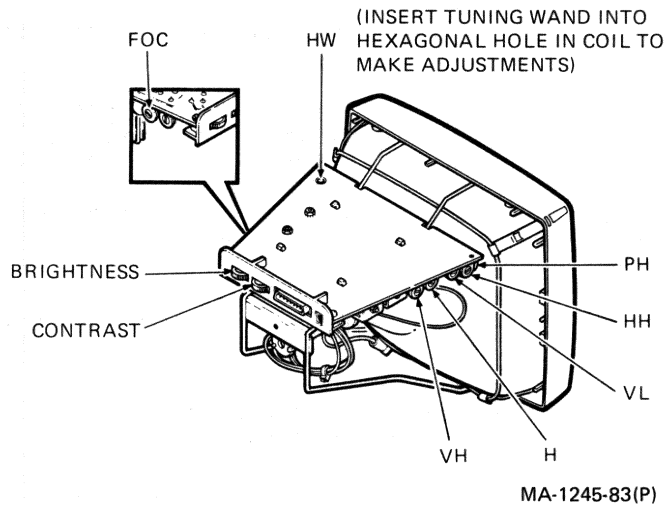

Figure 3-1 Video Adjustment Locations
1. Position your terminal as shown in Figure 3-1. Make certain that your monitor is on a nonconductive surface.
The locations of the components where most of the adjustments will be made are shown in Figure 3-1.
2. Increase both the brightness and contrast to maximum. (See Figure 3-1 for the locations of the brightness and contrast controls.)
3.3.2.2 CONTRAST -- Set the contrast control (See Figure 3-1.) for the desired intensity of display relative to the background.
2. If necessary, adjust the vertical linearity (VL) control (See Figure 3-1.) until all of the characters are the same height.
2. Adjust the focus (FO) control (See Figure 3-1.) for the best overall character presentation, if necessary.
2. If necessary, adjust the vertical hold (VH) control (See Figure 3-1.) to stabilize the screen display.
2. If necessary, adjust the horizontal hold (HH) control (See Figure 3-1.) to stabilize the display.
4. Compare the measurements taken in steps 2 and 3. If the difference between the two measurements is greater than 6 mm, adjust the horizontal centering control (PH). (See Figure 3-1.)
8. The video display width must be within the range of 200 to 210 mm. If necessary, adjust HW (the horizontal width control) until the video display width is within the range specified. (See Figure 3-1.)